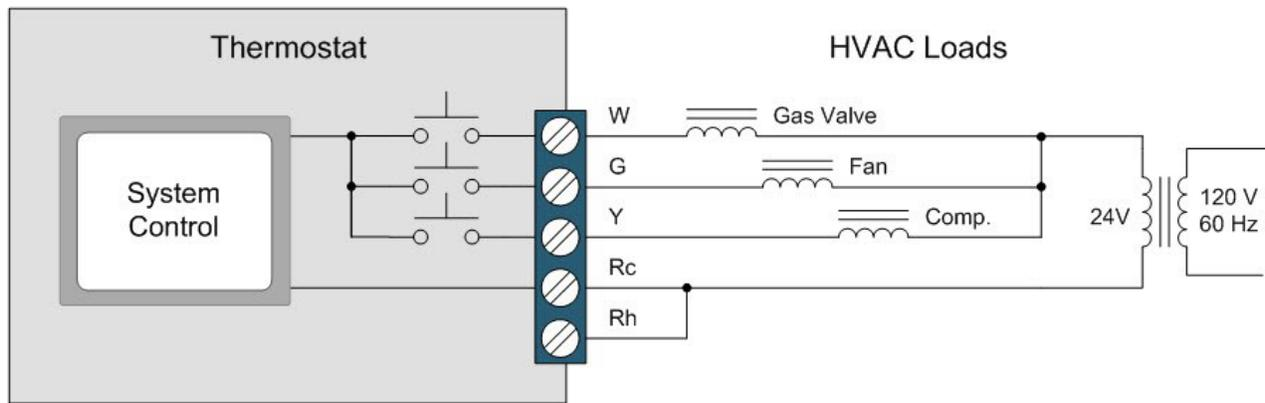

Figure 2: Functional diagram of a basic thermostat
A basic thermostat for heating and cooling uses four or five wires to control the HVAC system, as shown in Figure 1. The white (W), green (G) and yellow (Y) wires connect to the heating, air flow and cooling systems, respectively. In Figure 2, the red cooling and heating (Rc and Rh) wires are connected to create a four-wire system when both cooling and heating systems are combined and connected to a single 24V alternating current (AC) transformer.